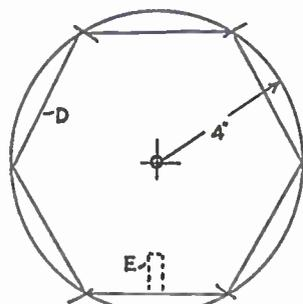

Fig. 1
Construction includes a baseboard, on which the cake-board can be rotated. For the baseboard, on a stout piece of wood not less than  $\frac{1}{2}$  in. thick and free from knots, strike the circle shown in Fig. 1. Step the radius round the circle, which will divide it into six equal parts from which the hexagon (D) can be pencilled in. Cut this out, and in the centre, indicated by the compass point mark, bore a  $\frac{1}{2}$  in. hole. Turn the base over, and where shown by the dotted lines (E), saw and chisel out a groove  $\frac{1}{2}$  in. deep and wide and 1 in. long, for the handle to subsequently fit in.